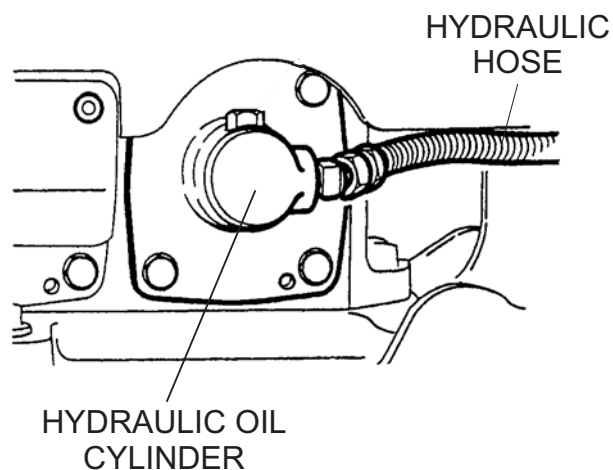

Figure 25. Hydraulic Oil Cylinder
1. Disconnect the hydraulic hose connected to the hydraulic oil cylinder (Figure 25).